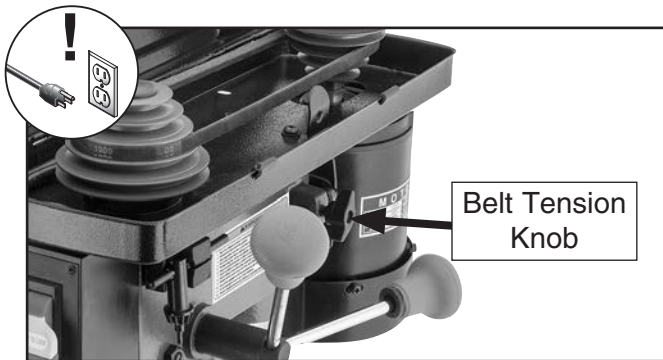

Figure 42. Belt tension knob location.
3. Turn belt tension knob counterclockwise to loosen motor tension spring (see **Figure 42**).